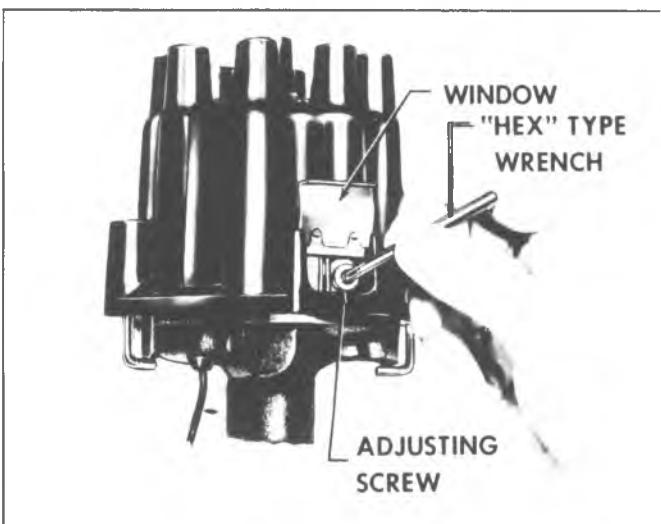

Fig. 19i—Adjusting Dwell Angle
"HEX" type wrench into the adjusting screw head. (fig. 19i).
- b. Turn the adjusting screw (fig. 19i) to set the dwell angle to 30 degrees.
- c. Turn the adjusting screw clockwise (fig. 19i) until the lamp lights, then give the wrench 1/2 turn in the opposite direction (counter-clockwise) to obtain the proper dwell angle.